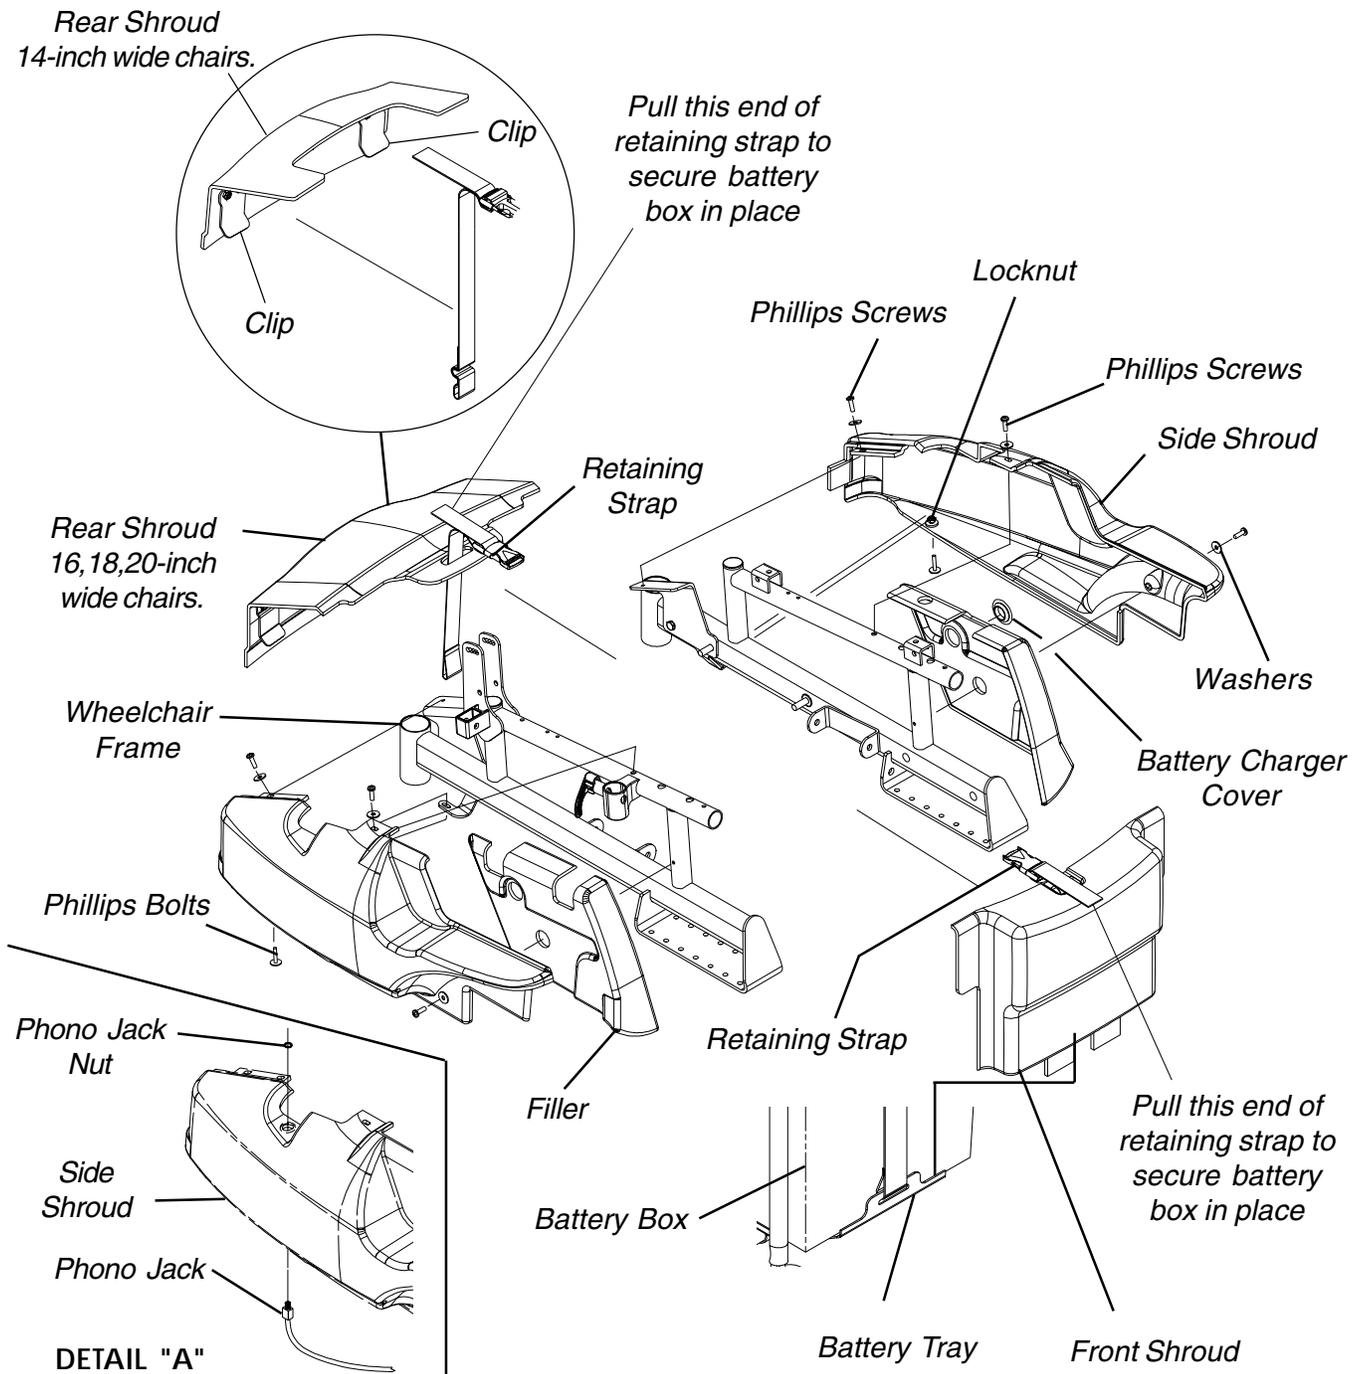

FIGURE 2 - REMOVING/INSTALLING SHROUDS - FWD WHEELCHAIRS
1. Perform one (1) of the following:
- Feed the retaining strap through the rear shroud as shown in FIGURE 2.
- Press down on the rear shroud until the two (2) clips secure the rear shroud to the two (2) side shrouds.
3. Perform one (1) of the following:
5. Remove the phillips screws, bolts, washers and locknuts that secure side shroud and filler to the wheelchair frame. Refer to FIGURE 2 for phillips screw and washer locations.
3. Install the phillips screws, bolts, washers and locknuts that secure the side shroud and filler to the wheelchair frame and tighten securely. **DO NOT OVERTIGHTEN.** Refer to FIGURE 2 for phillips screw, bolt, washer and locknut locations.